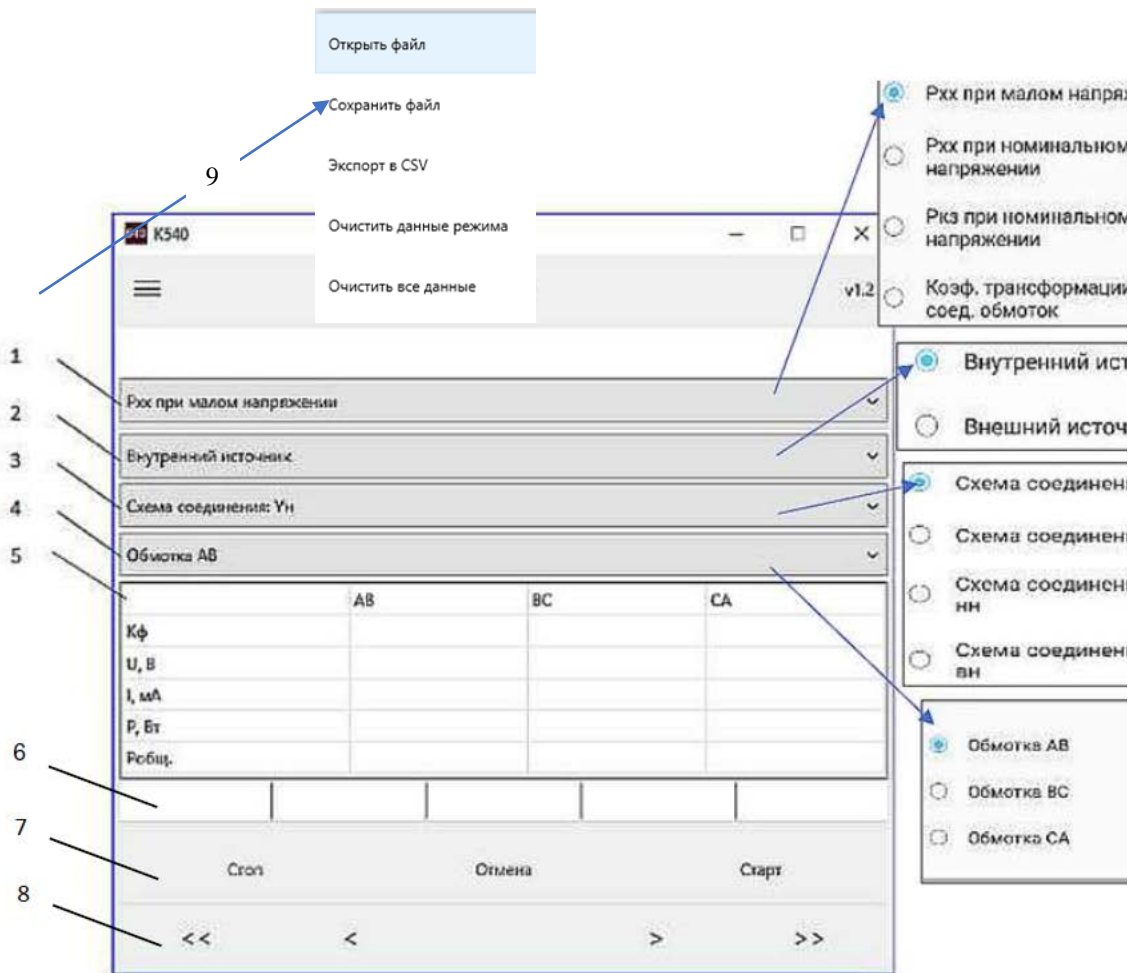
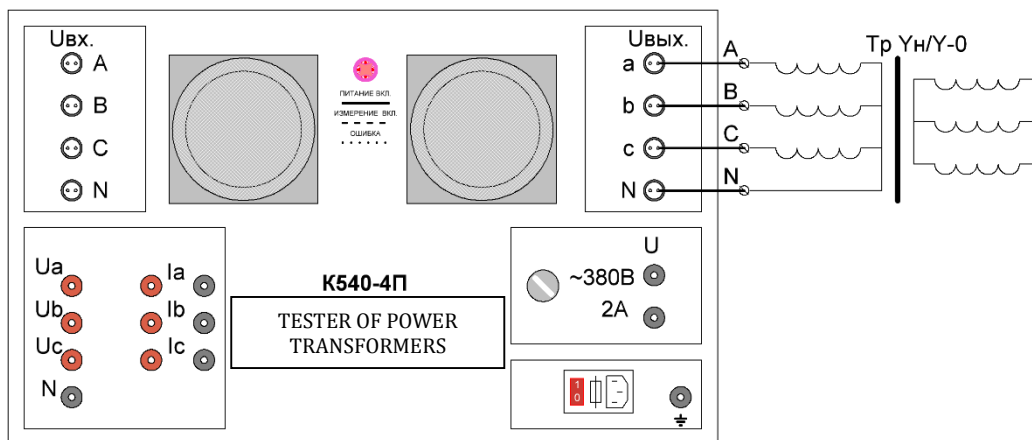
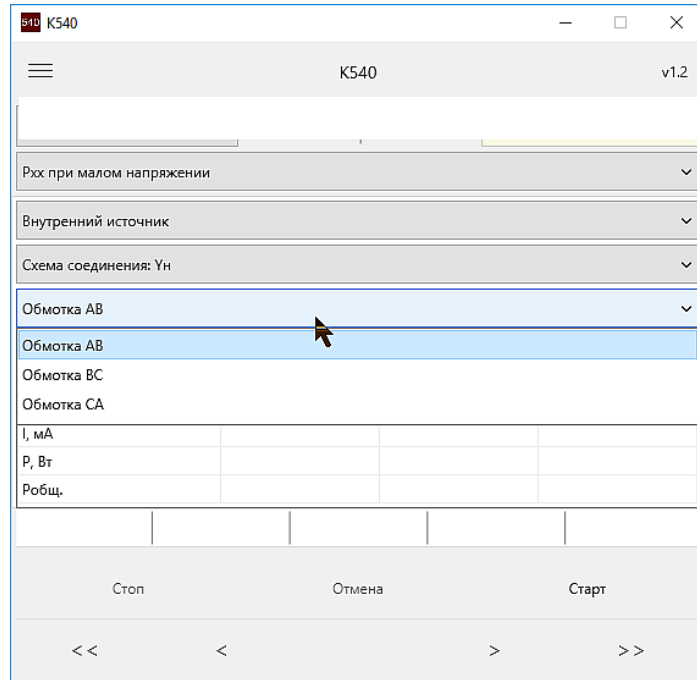
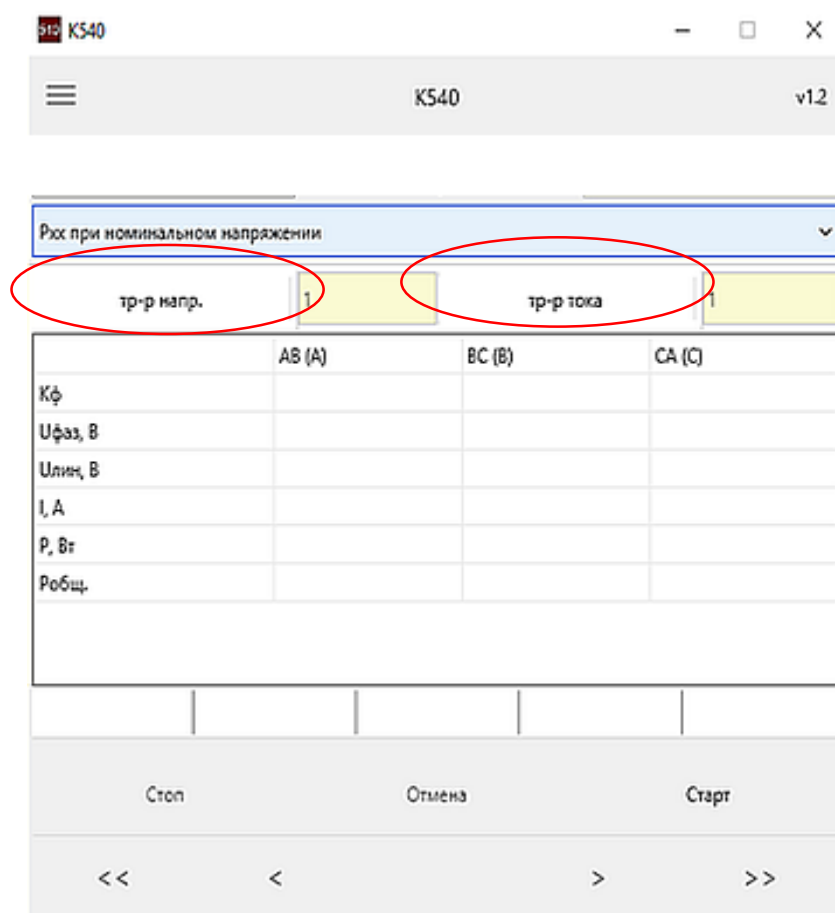

Figure 5a
Figure 6.1
Figure 6.3
Figure 6.8
Upon start of “K540setup” software, PC will display the start screen of “K-540-4P” software, Figure 5a.
Given the different diagrams of LV and HV winding connection (delta), we must distinguish the drive voltage supply Δ HV and Δ LV (this selection is made in Line 3, Figure 5a).
To measure Pxx in 3-phase transformers, at low drive voltage, circuit in Figure 6.1 shall be assembled.
6.1.1.2 Activate Line 1, Figure 5a on PC screen and select “Pxx at low voltage” mode.
6.1.1.3 Activate Line 2, Figure 5a on PC screen and select “Internal source” mode (at that, 380V voltage will be generated by “K-540-4P” meter itself).
6.1.1.4 Activate Line 3, Figure 5a on PC screen and select one of five possible circuits for connection of winding, where drive voltage will be supplied (for circuit in Figure 6.1, select Y_H – star with neutral terminal).
6.1.1.5 Activate Line 4, Figure 5a on PC screen and select one of three pairs (combinations of winding outputs), where drive voltage will be supplied (AB, BC, CA). View of resulting start screen for this mode is shown in Figure 6.3.
6.1.3.4 In Line 1, Figure 5a, select the mode “Pxx at rated voltage”. In fields “voltage transformer” and “current transformer”, “default” start screen of this mode shows transformation ratios equal to 1 (no additional current/voltage transformers), see Figure 6.8. Do not change these values for this mode!!!
6.1.3.5 Supply power to T1, T2, T3 transformers (Figure 6.3) and activate the “Start” field. At that, AB, BC, and AC lines show linear/phase drive voltage, while “Кφ” line shows the form factor of this voltage.
6.1.4.2 In Line 1, Figure 5a, select the mode “Pxx at rated voltage”. In fields “voltage transformer” and “current transformer” (start screen of this mode, see Fig. 6.8), set transformation ratios of applied current/voltage transformers.